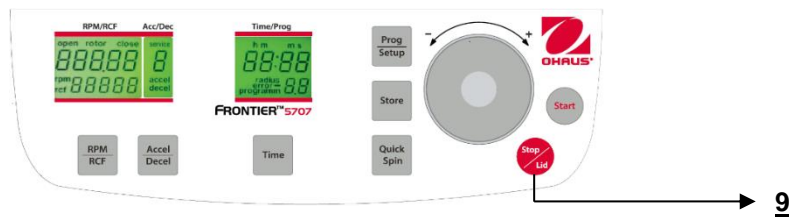

Figure. 25
The run can be interrupted at any time by pressing the **"Stop"** key (9) (See figure 25). After pressing the key the centrifuge decelerates with the respective pre-selected intensity until it reaches standstill.